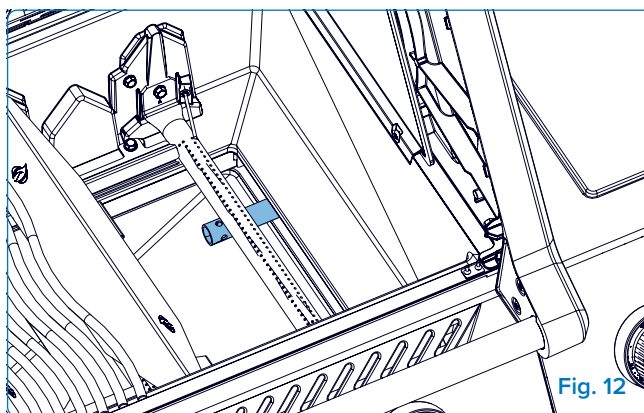

Fig. 12
5. **The smoker outlet pipe** – can be unscrewed for cleaning—insert a screwdriver into the tip holes for extra leverage (**Fig. 12&13**).